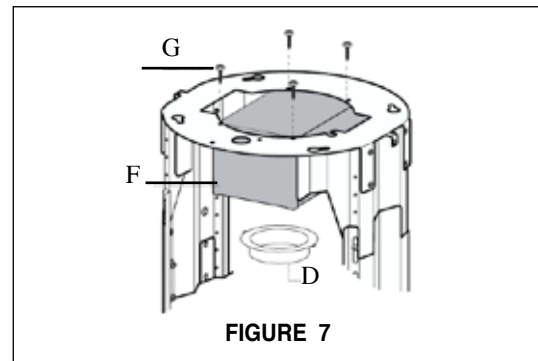

FIGURE 7
2. Attach the ductless outlet piece (F) to the upper frame with 4 screws (G) (**FIGURE 7**)